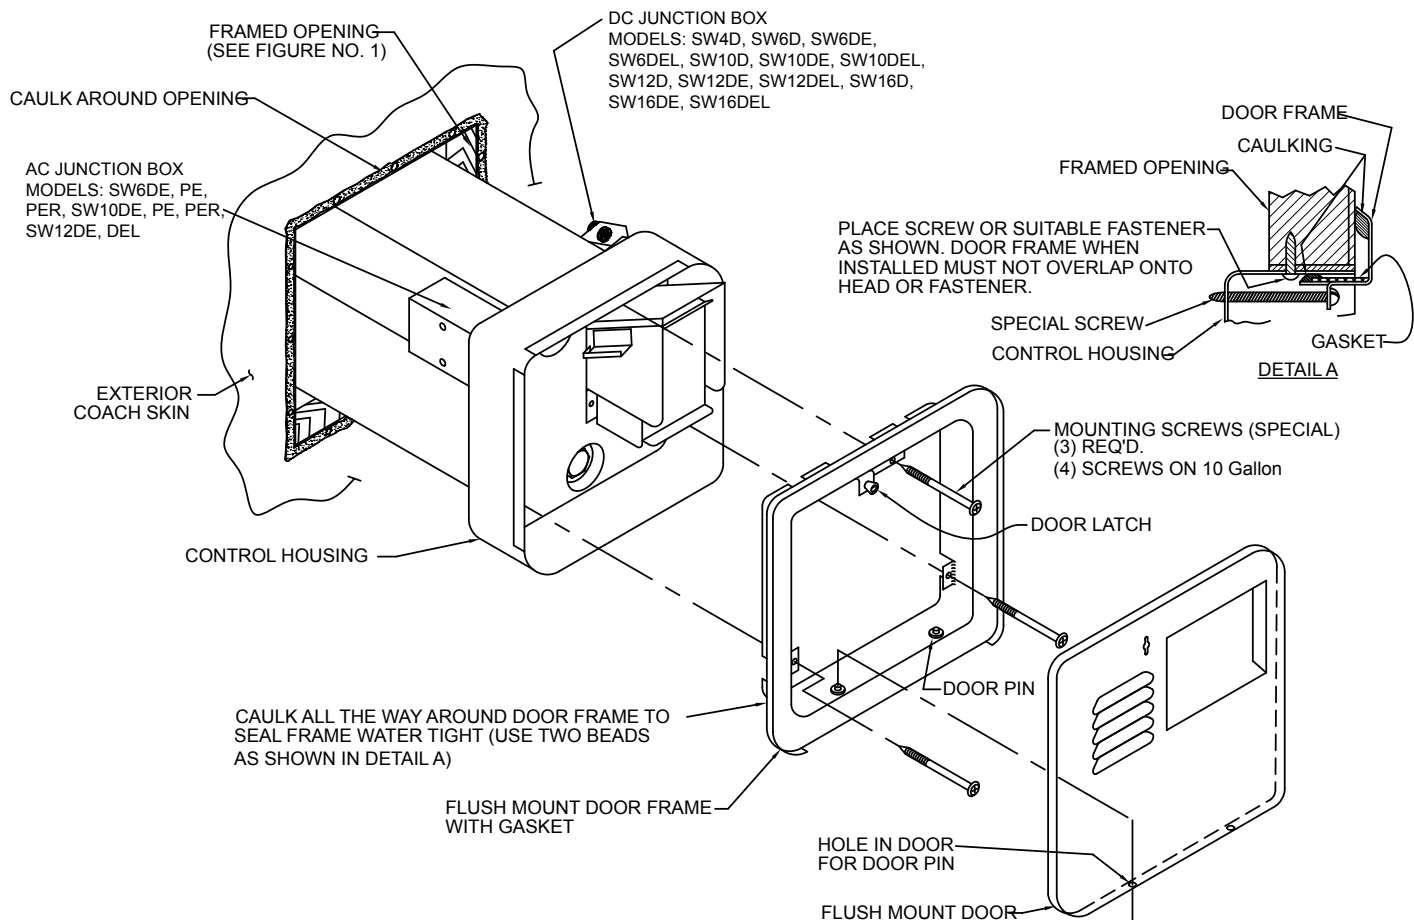

Figure 2
- E. Caulk around framed opening as illustrated in Figure 2.
- F. Caulk around door frame using 2 beads of silicone caulking (or suitable caulking) one on the flange to seal the control housing and one around back side of frame to seal to coach skin. (See detail A in Figure 2)
- G. Insert door frame into control housing and secure with four (4) No. 8-15 x 3 1/2" screws provided for 10 and 12 gallon applications and (3) No. 8-15 x 3 1/2" screws provided for 4 & 6 gallon applications.
- A. Refer to Figure 2 (on page 8), for location of A.C. and D.C. junction box on specific models. All A.C. connections must be inside junction box.